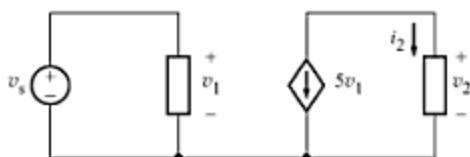

Fig. A-56
- A-7. For the circuit shown in Fig. A-56, if  $v_2 = 1000i_2$  and  $i_2 = 5 \text{ mA}$ , determine  $v_S$ . [Ans.  $-1 \text{ mV}$ ]